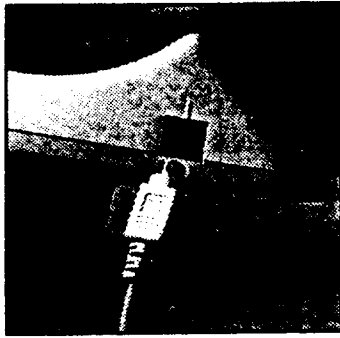

Fig. E.3
- b. Plug the THM cable plug into the receptacle on the left side of the MOU (Fig. E.3).